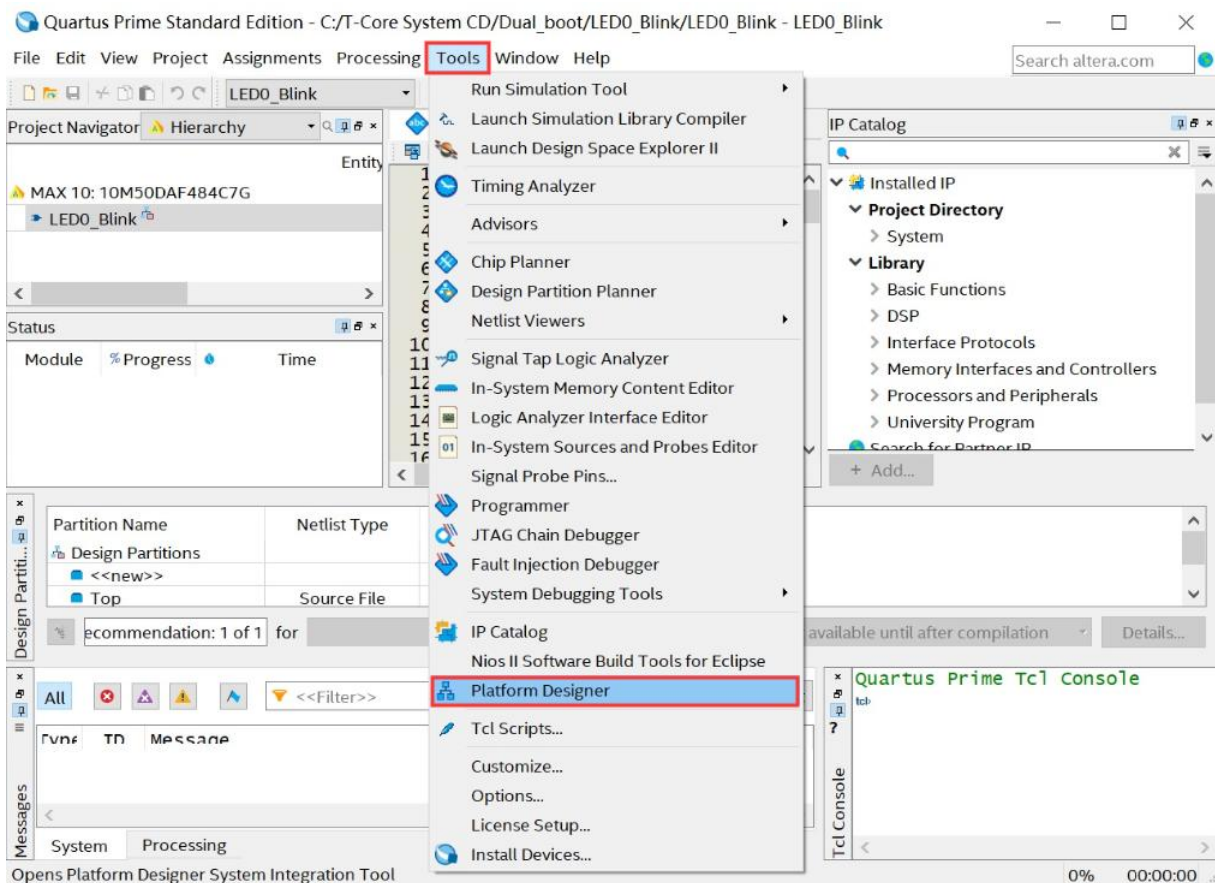

Figure 4-4 Select Qsys menu and click
1. Open Quartus project and choose **Tools > Platform Designer** to open Platform Designer GUI as shown in **Figure 4-4**.